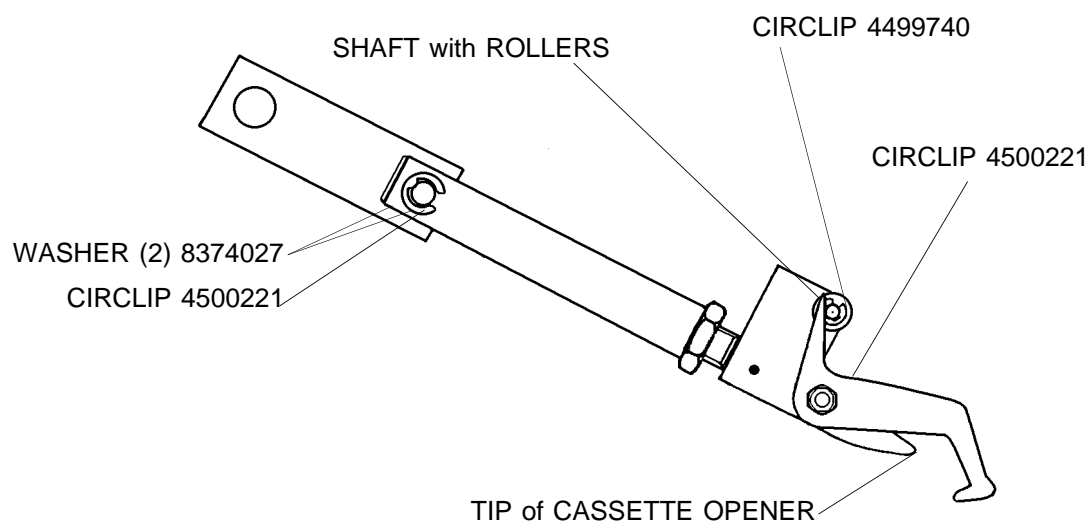

figure 3
9. Install SHAFT with HOOK to the CASSETTE OPENER. Use new CIRCLIP 4500221. See figure 3.
10. Install CASSETTE OPENER in ML700. Use new CIRCLIPS and WASHERS. See figure 3.